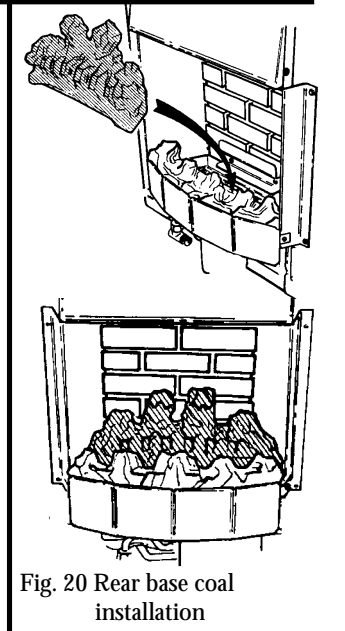

Fig. 20 Rear base coal installation
11.3 Place the rear base coal in the burner compartment behind the front coal. It should rest on the ledge at the back of the burner compartment and its rear face should touch the rear ceramic wall (See figure 20)